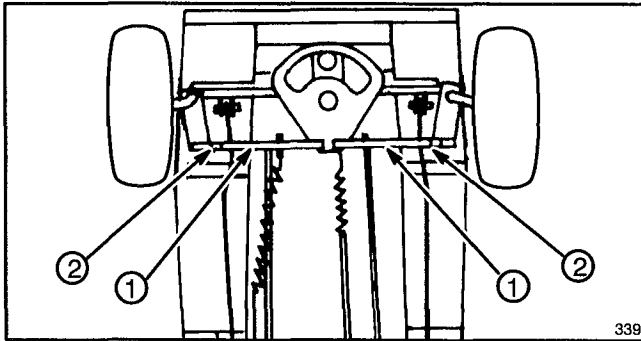

Figure 28
1. To align front wheels, loosen jam nut and turn tie rod end (there is only one adjustable tie rod) until center line distance across front of wheels (d') is .06 inch (1.5 mm) to .25 inch (6.3 mm) less than center line distance across rear of front wheels (d'') (Fig. 28 & 29).